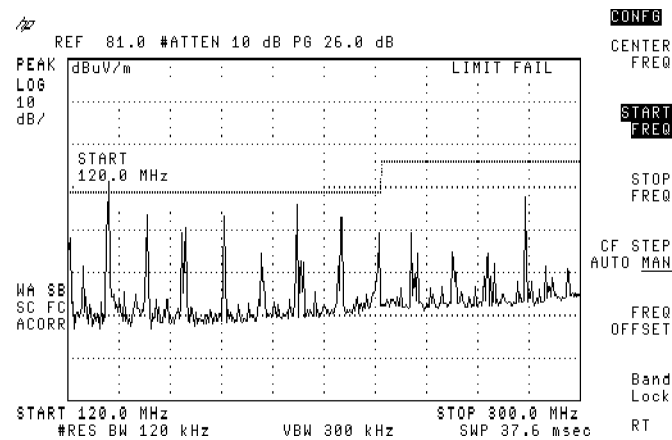

Figure 3-55. Entering a New Start Frequency
25. Press 120, **MHz** to enter a start frequency of 120 MHz. See Figure 3-55.